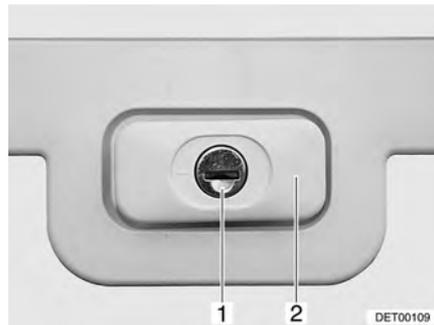

Fig. 35 Flap lock, rectangular, closed
- Insert key into locking cylinder (Fig. 35,1) and turn a quarter turn. The lock handle (Fig. 35,2) snaps out.